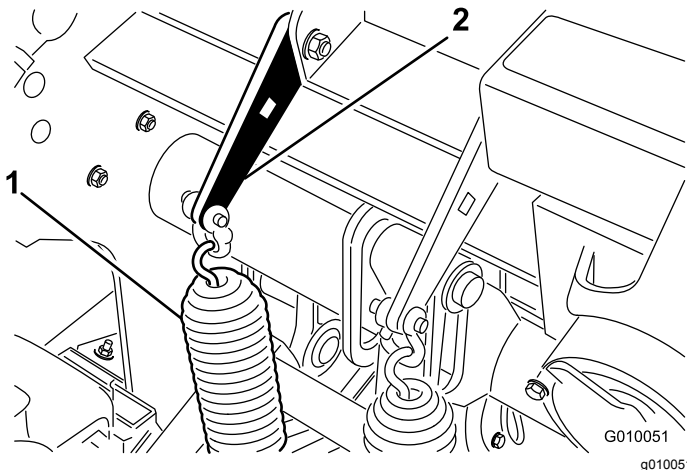

Figure 29
2. Loosen the carriage bolt nuts securing the spring brackets to the coring head (Figure 29). Do not remove them.